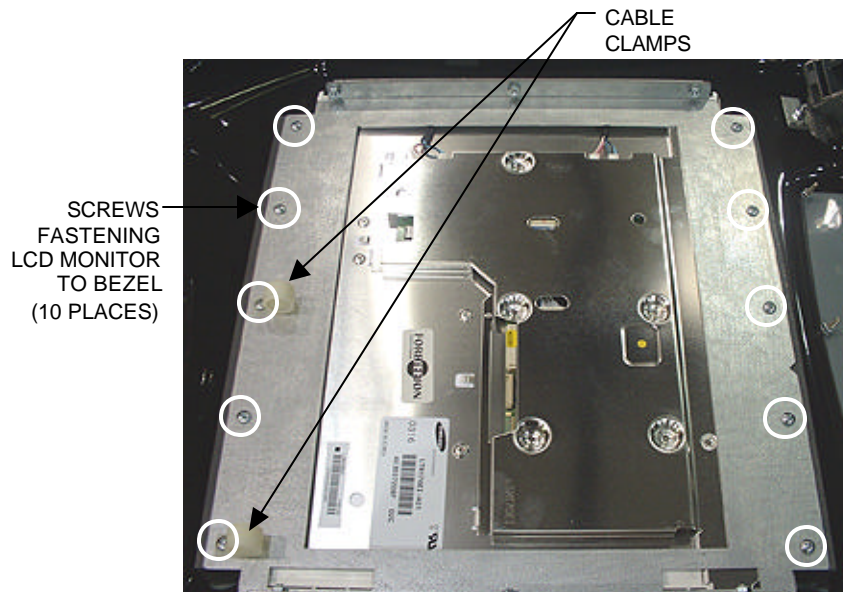
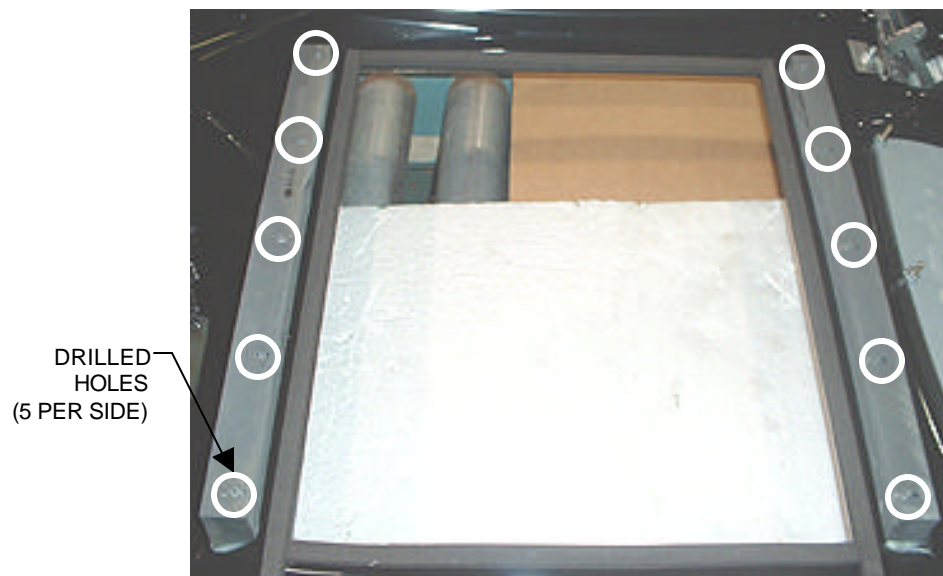

FIGURE 4 - UNDERSIDE OF MONITOR
FIGURE 5 - FORCE FUSION - PLASTIC MOUNTING PIECES ON BEZEL
6. Place the bezel assembly upside-down on a flat surface and remove the 10 screws fastening the LCD monitor to the bezel (remember which 2 screws also fasten cable clamps), then remove the monitor from the bezel. See Figure 4. NOTE: Be sure the glass is not scratched when setting the monitor aside.
3. Place the new LCD monitor in the bezel (make sure it is not upside-down), lining up the screw holes on the face of the mounting frame with the larger, drilled holes on the plastic mounting pieces (see Figure 5), and fasten it with the 10 screws. Also replace the cable clamps in the appropriate screw holes (see Figure 4).